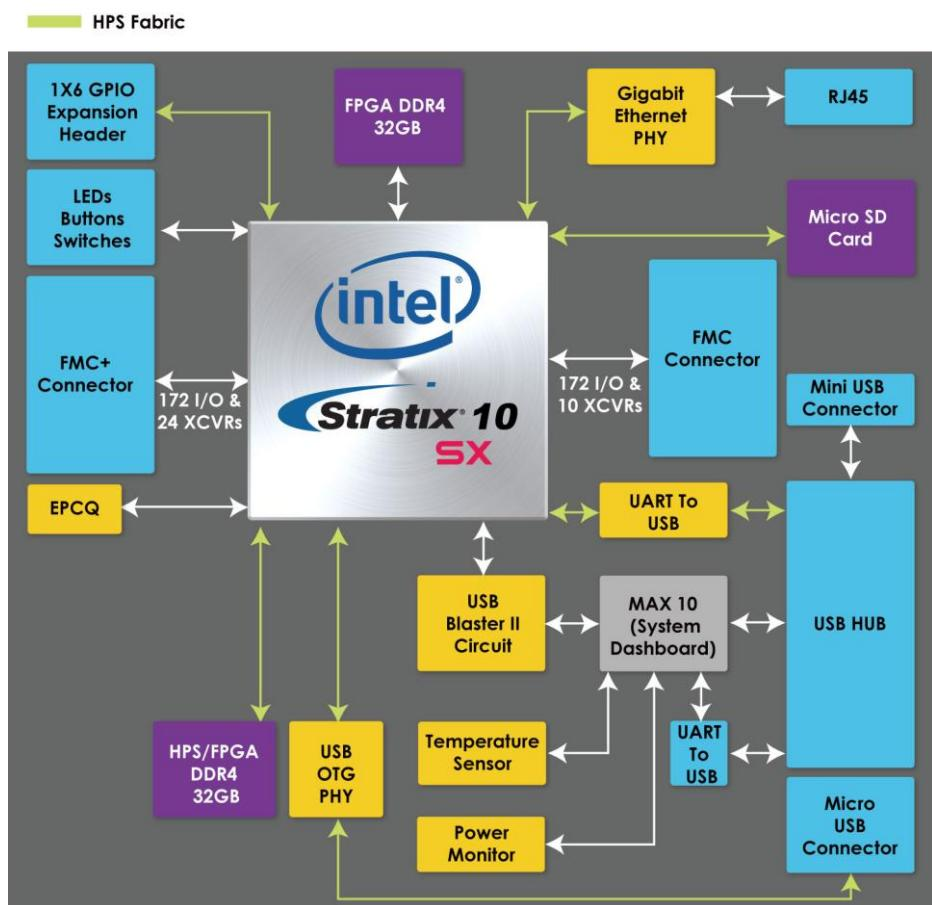

Figure 1-4 Block diagram of the Apollo S10 board
**Figure 1-4** shows the block diagram of the Apollo S10 board. To provide maximum flexibility for the users, all key components are connected to the Stratix®10 SX FPGA device. Thus, users can configure the FPGA to implement any system design.